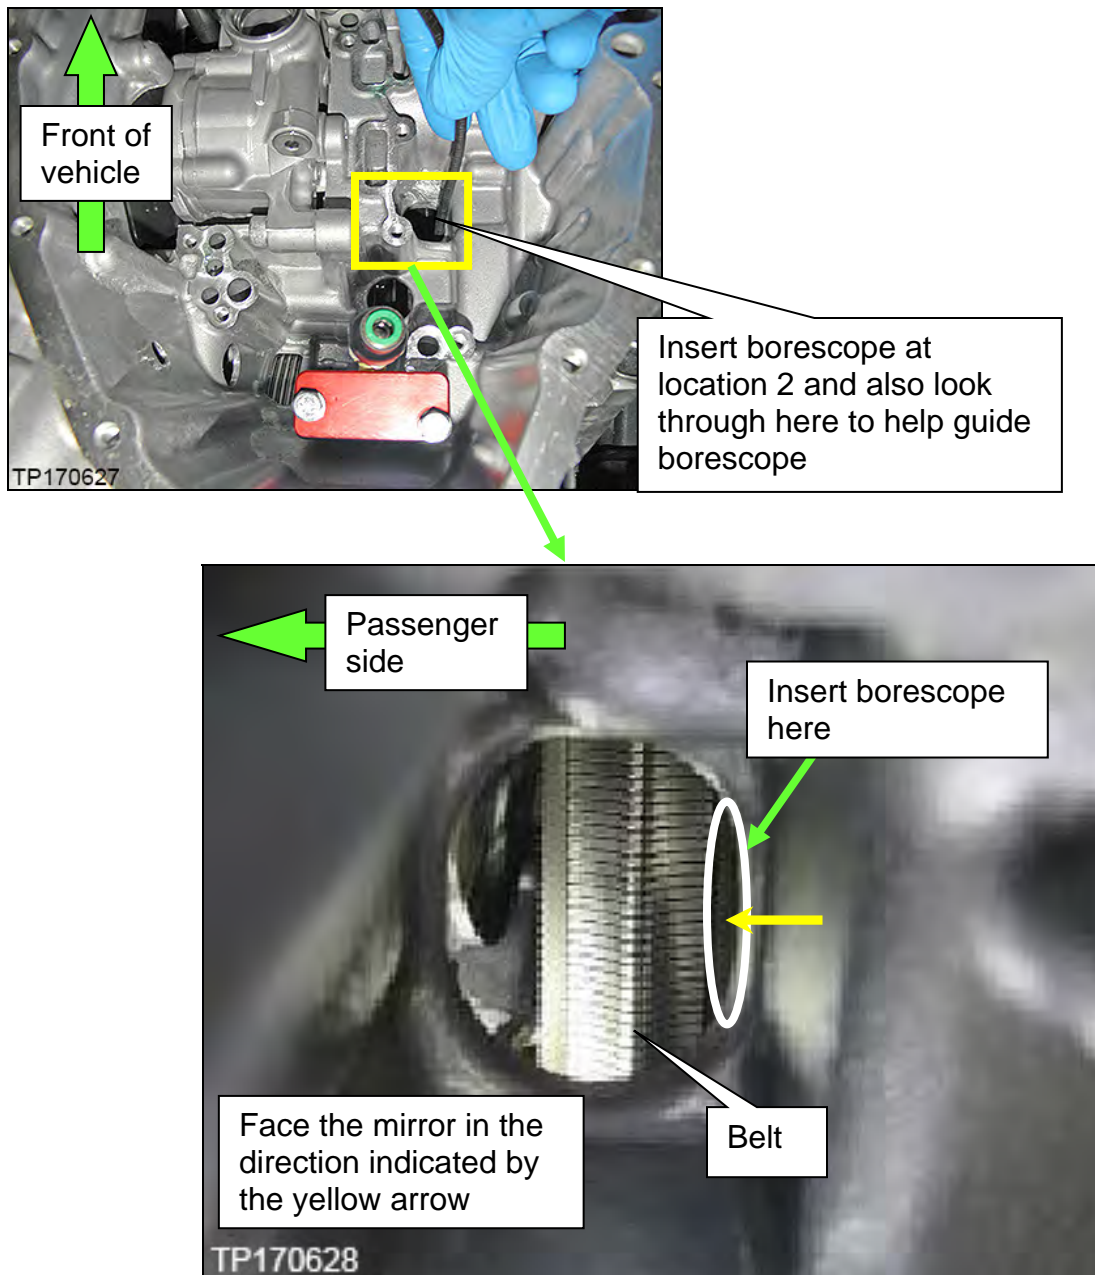

Figure 9C
- III. Insert the borescope in the second location where shown in Figure 9C.